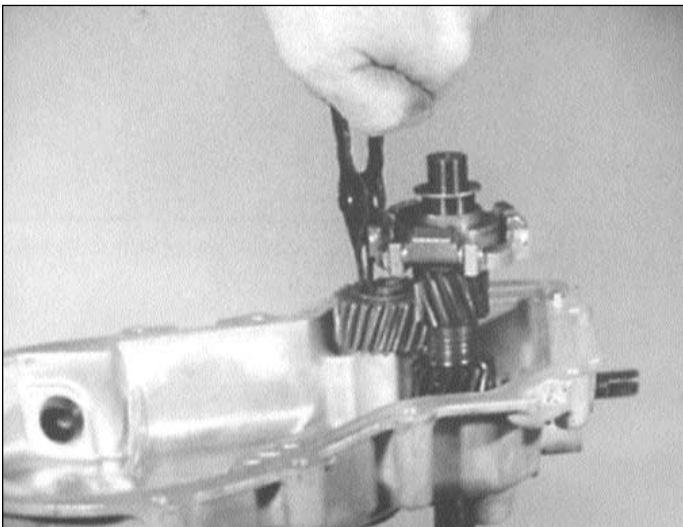

Figure 38 - Center Shaft Assembly
5. Apply moly grease to bore of two center shaft gears. Slide two gears, clutch collar and spacers onto center shaft and then press two bearings (6204 & 6304) onto shaft using an arbor press. Use new bearings, refer to Figure 38 to verify correct order of assembly.
Install the fork so it is centered over the bearing in the gear case. Adjust the keeper plate to limit the end play of the governor shaft to less than 0.5mm. See Figure 38.